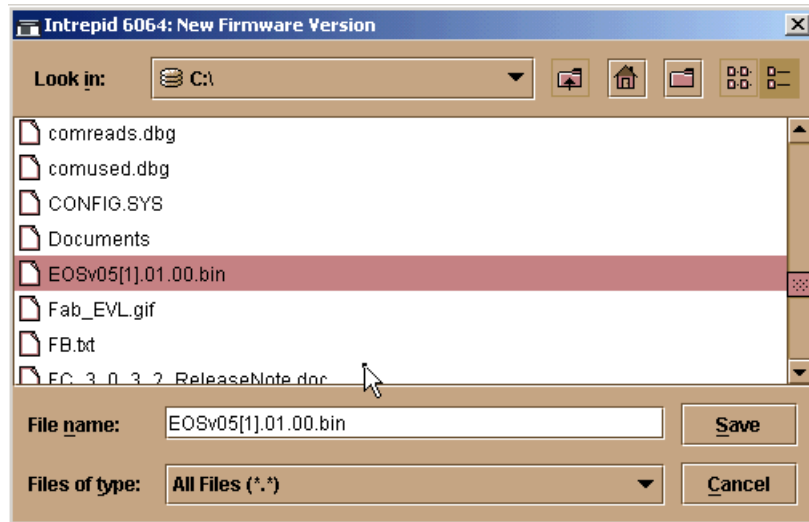

Figure 4-128 New firmware version transferred to firmware library
- b. Now browse and select the firmware image file and select **Save** as shown in Figure 4-128.